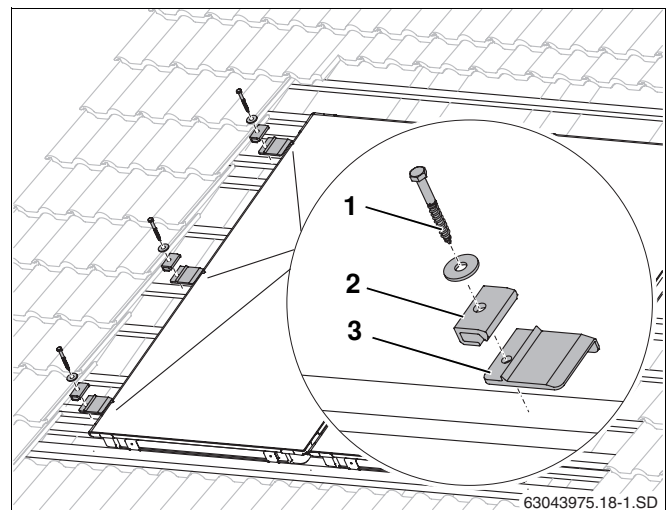

Fig. 28 Fitting the left-hand clamps
- Lift left-hand collector slightly and, on the 2nd and 3rd additional battens, as well as halfway along the collector on a free batten, push the left-hand pack plates (Fig. 28, **Item 3**) under the collector until the roof pushes against the lower edge of the collector.
- For the screw (Fig. 28, **Item 1**) drill a pilot hole with a 4 mm drill.
- Fasten the single-sided clamps (Fig. 28, **Item 2**) with a 6x40 screw (Fig. 28, **Item 1**) and washer (use size 10 spanner).